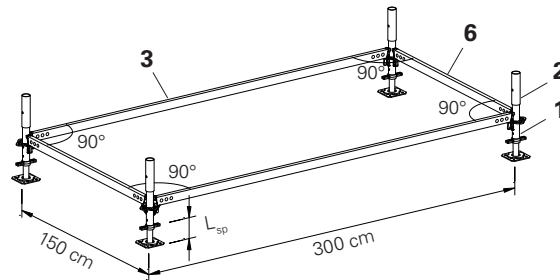

Fig. B3.01a
$L_{sp} \leq 20$ cm. (Fig. B3.01a)
- All ledgers must be at a 90° angle to each other. (Fig. B3.01a)